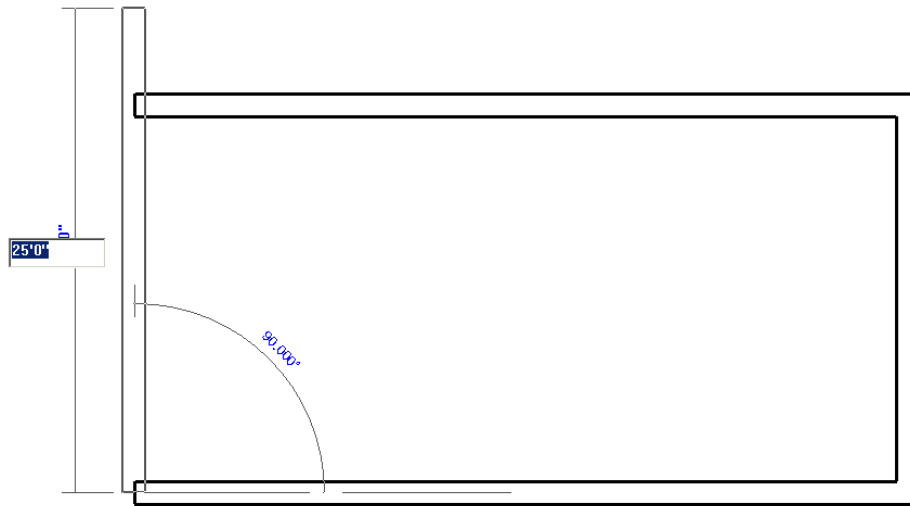

Figure 2-30 Sketching the fourth exterior wall segment
- You have enabled the **Chain** option and so the next wall segment automatically starts from the last specified point. Hold down the SHIFT key and move the cursor vertically upward. Enter **25'0"** to create a vertical wall segment, as shown in Figure 2-30. The fourth wall segment is created, as shown in Figure 2-30.